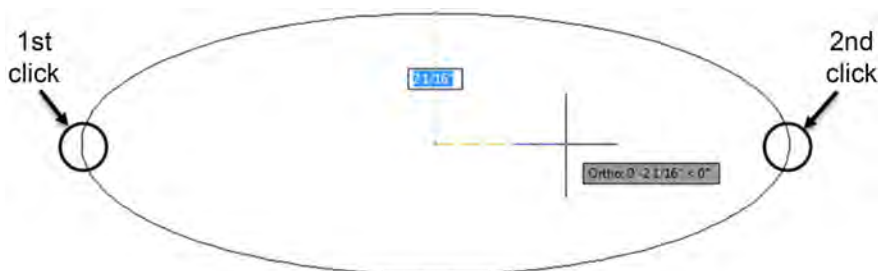

FIGURE 2.20
Step 3. With Ortho on (not required but good to have), click again somewhere off to the left or right of the first point. Then, move the mouse back toward the center as the ellipse is formed, as seen in Figure 2.20.